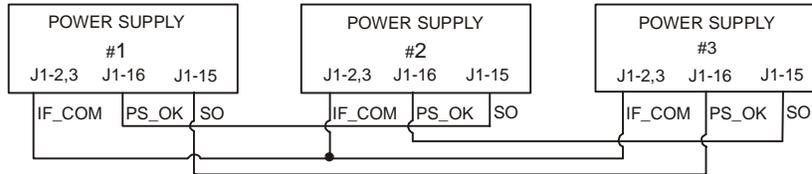

Fig.5-6: Daisy-chain connection
#### 3. Daisy Chain Connection: (See Fig. 5.6)
- Connect J1-2 (or J1-3) common to all supplies (See Fig. 5.6).
- Switch SW1 position 5 should be in its down position for all power supplies (See Fig. 5.6).
- Connect J1-2 (or J1-3) common to all supplies (See fig. 5.6).
Fig.5-6 shows connection of three units, however the same connection method applies to systems with a larger number of units.